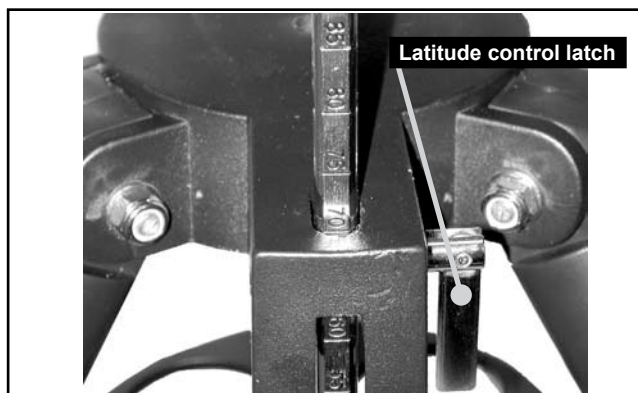

Figure 19: Set latitude
2. Loosen the latitude control latch (Fig. 19) and lift up the tilt-plate so that you can easily access the underside of the plate. Relock the latitude control latch, so the assembly doesn't slip while you are attaching the telescope.
5. Determine the latitude of your observing location from a road map, atlas or the Latitude Chart for Major Cities of the World, page 54. Loosen the latitude control latch (Fig. 19) and adjust the latitude control bar (Fig. 18) so that your observing site's latitude is just visible above the flat surface of the tripod head. Retighten the latch.